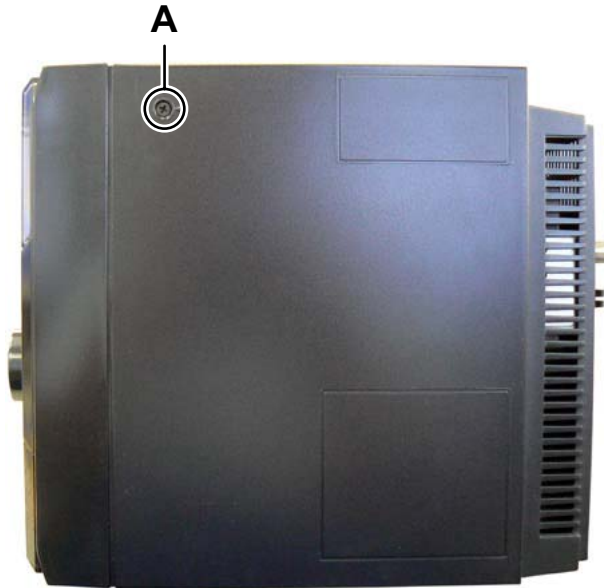

Fig.1
#### 3.1.1 Removing the REAR COVER (See Fig.1 to 4)
- (1) Remove the two screws **A** attaching the both side of REAR COVER. (See Fig.1)